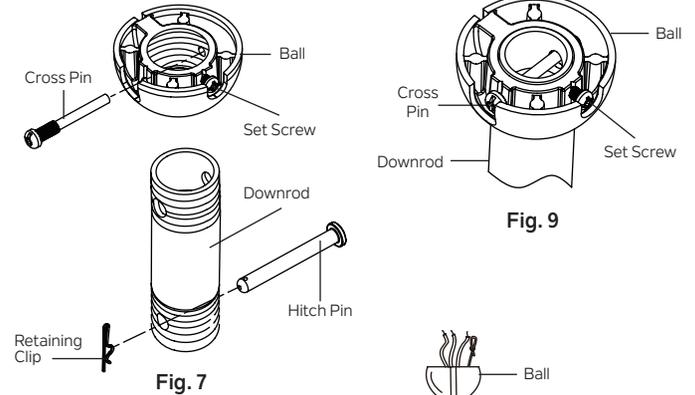

Fig. 7
Step 5. Remove the retaining clip and the hitch pin from the ball/downrod assembly. Remove the ball from the ball/downrod assembly by loosening the set screw (do not remove) on the ball, unscrewing and removing the cross pin, and unscrewing the ball from the downrod. (Fig. 7)